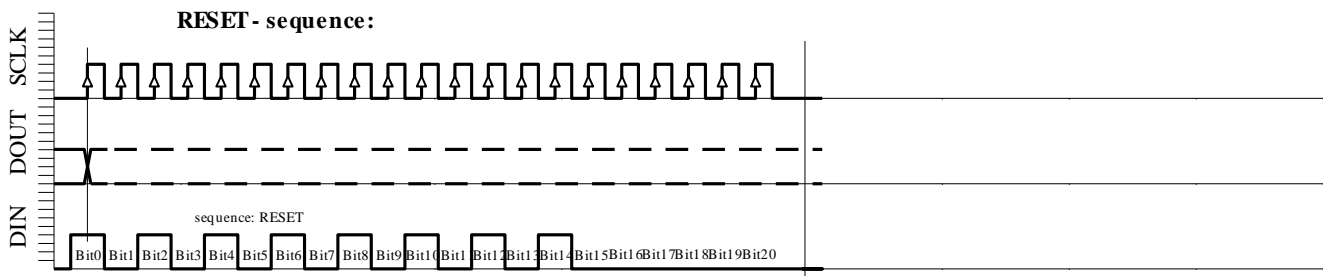

Fig. 6e: RESET sequence (21 bit)
- ◆ RESET sequence (Figure 6e)
The RESET sequence is special as the module in any state recognizes its unique pattern. By consequence, it can be used to restart if synchronization between the microcontroller and the MS5534C has been lost. This sequence is 21-bit long. The DOUT signal might change during that sequence (see Fig. 6e). It is recommended to send the RESET sequence before each CONVERSION sequence to avoid hanging up the protocol permanently in case of electrical interference.